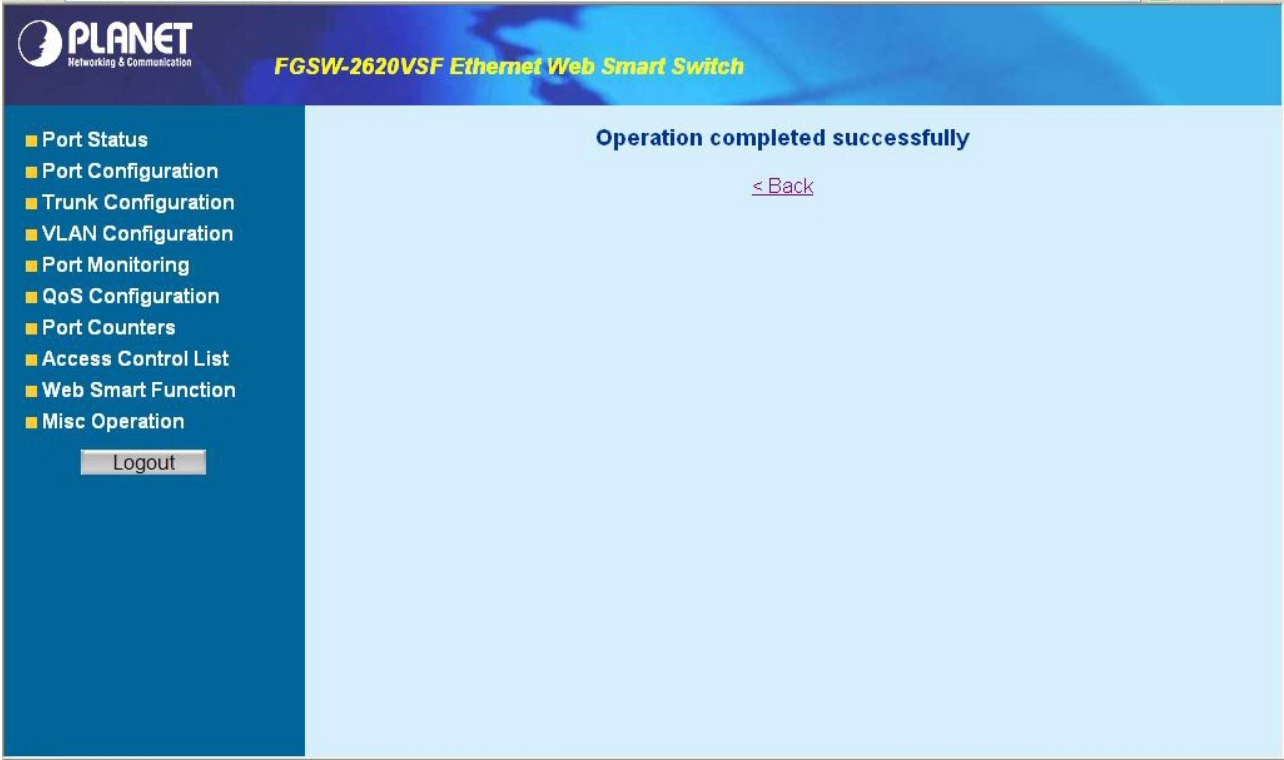

Figure 4-15 Port-based VLAN Setting Web Page screen
3. After setup completed, please press “**Apply**” button to take effect and the screen in Figure 4-15 appears.